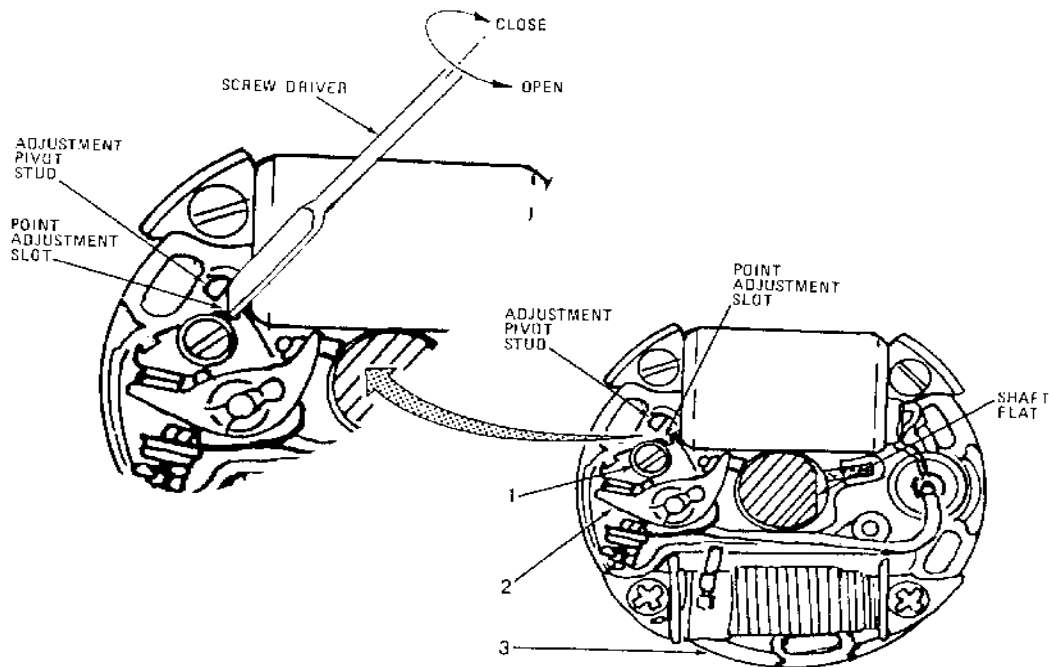

Figure 5, LDU Engine Timing
Step 6: Ignition points check and adjustment. (Figure 5)
- Check points (2) for burned or pitted contacts, freedom of movement, loose or frayed wire. Replace as necessary.
- Slightly loosen screw (1).
- With screw (1) loose, twist screwdriver and note that points open or close in response to twist.
- When gap is within range of 0.012 to 0.015 inches, tighten screw (1).